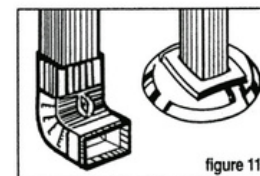

figure 11
Place downspout into tile cover (13). If no underground drain exists, attach an elbow to direct runoff flow away from the house (figure 11).